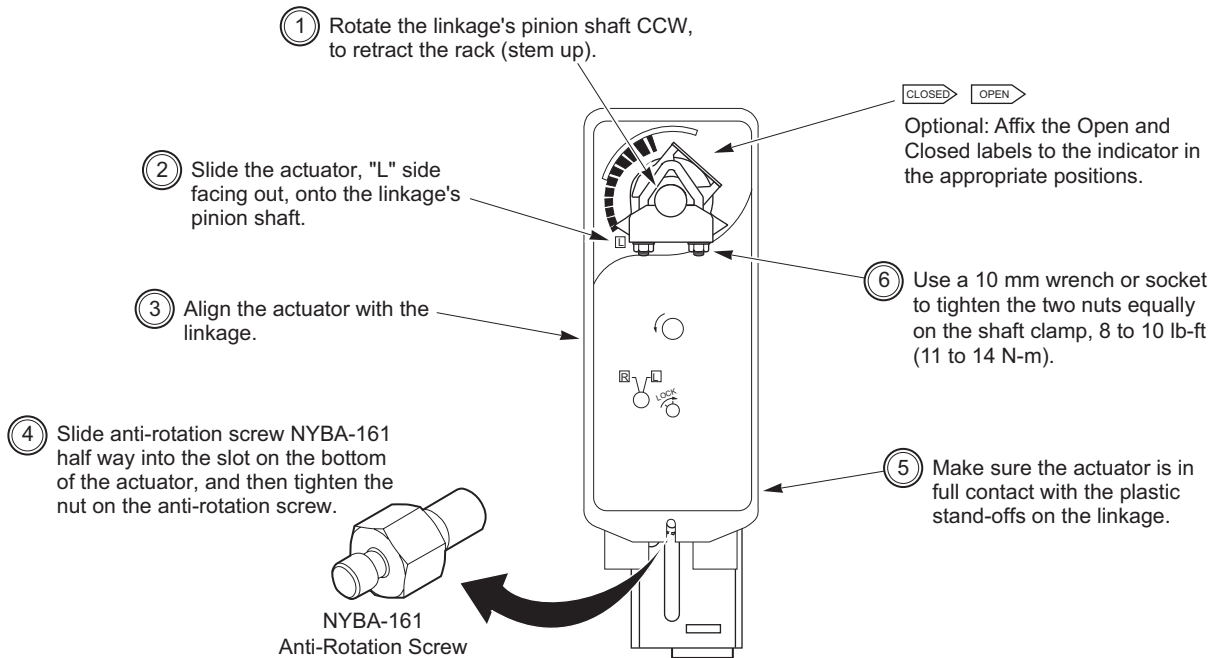

Figure-2 Mounting MX41-707X or MX41-715X and Setting Up Actuator/Linkage/Valve Assembly.
- a. Install the actuator onto the linkage and valve, and set up the assembly, according to Figure-2.